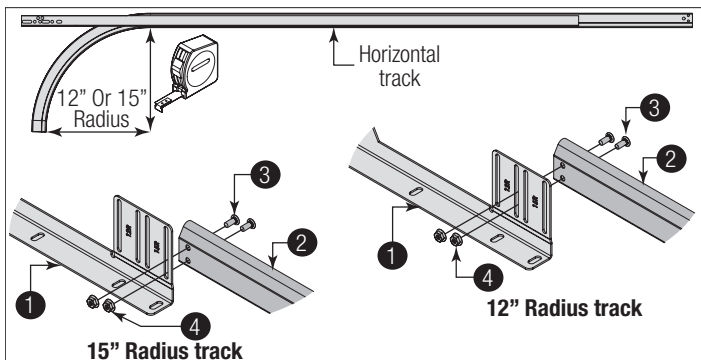
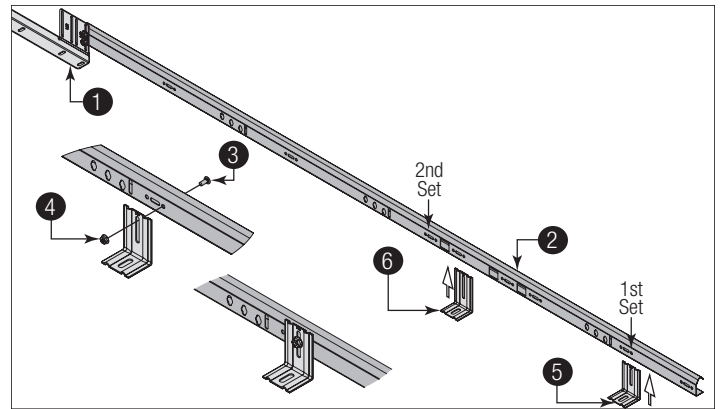

Figure 8, Left Side Shown
Figure 9, Left Side Shown
**See Figure 8 and Figure 9 for the following steps.**
**IMPORTANT:** In Figure 8, observe the slot location in reference to the 12" or 15" radius.